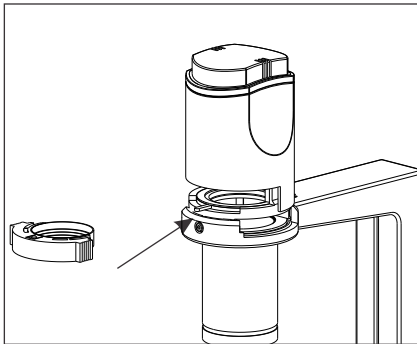

Fig. 10
2. The Blue filter is placed in the filter holder cartridge. The cartridge can be easily fitted in the lamp house. Hold the cartridge with your index finger and thumb and slide it in. See fig 10.